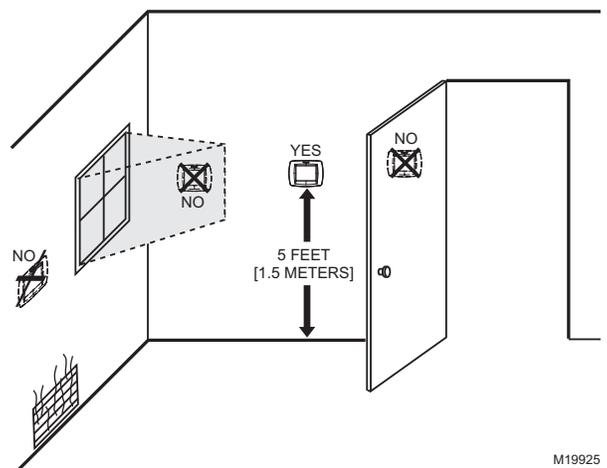

Fig. 43. Selecting Humidistat location.
1. Locate the control about 5 ft. above the floor on an inside wall. See Fig. 43.